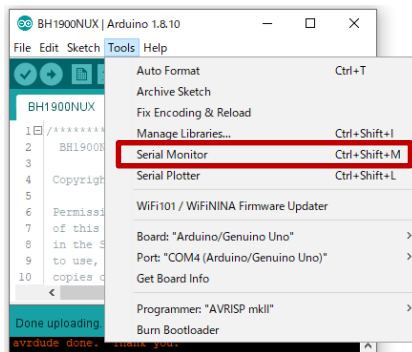

Figure 5. Tools Setting
4. Select [Tools] -> [Serial Monitor] (Figure 5)